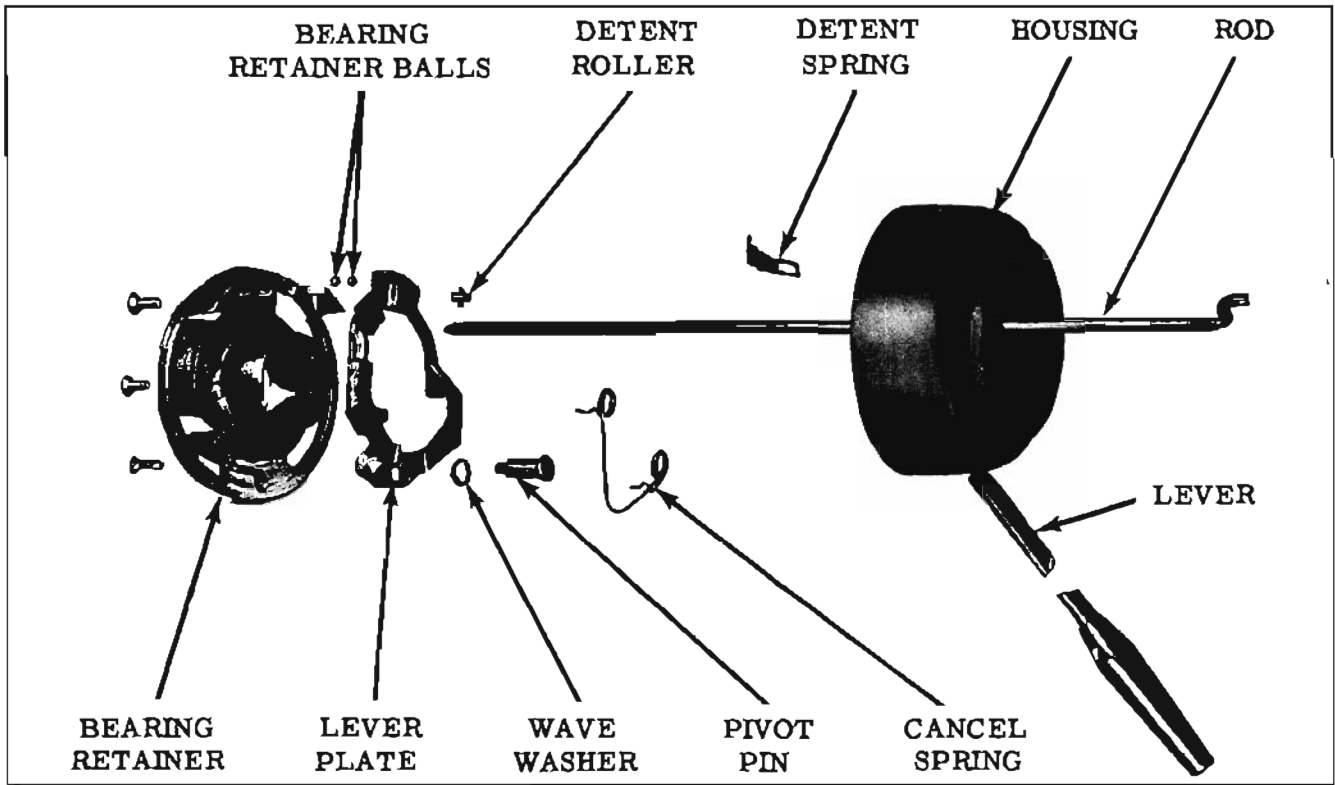

Fig. 8-83 Turn Signal Actuator Assembly (33 - 34 - 35 - 36 - 38 & 39 Series)
TURN SIGNAL ACTUATOR ASSEMBLY REMOVE AND INSTALL (Fig. 8-83)
4. Depress the detent spring to disengage it from the upper bearing retainer, then separate the lever plate, detent spring, detent roller and detent balls from the upper bearing retainer. (Fig. 8-83)